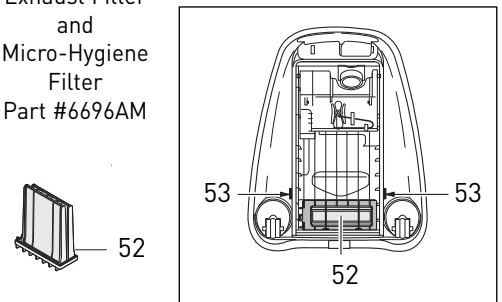

Figure 18
|  | 3. Micro-hygiene filter not properly inserted.                              | 3. Remove the filter bag cover (26) and make sure the micro-hygiene filter housing is seated firmly in place (see pg. 11, figure 18). |